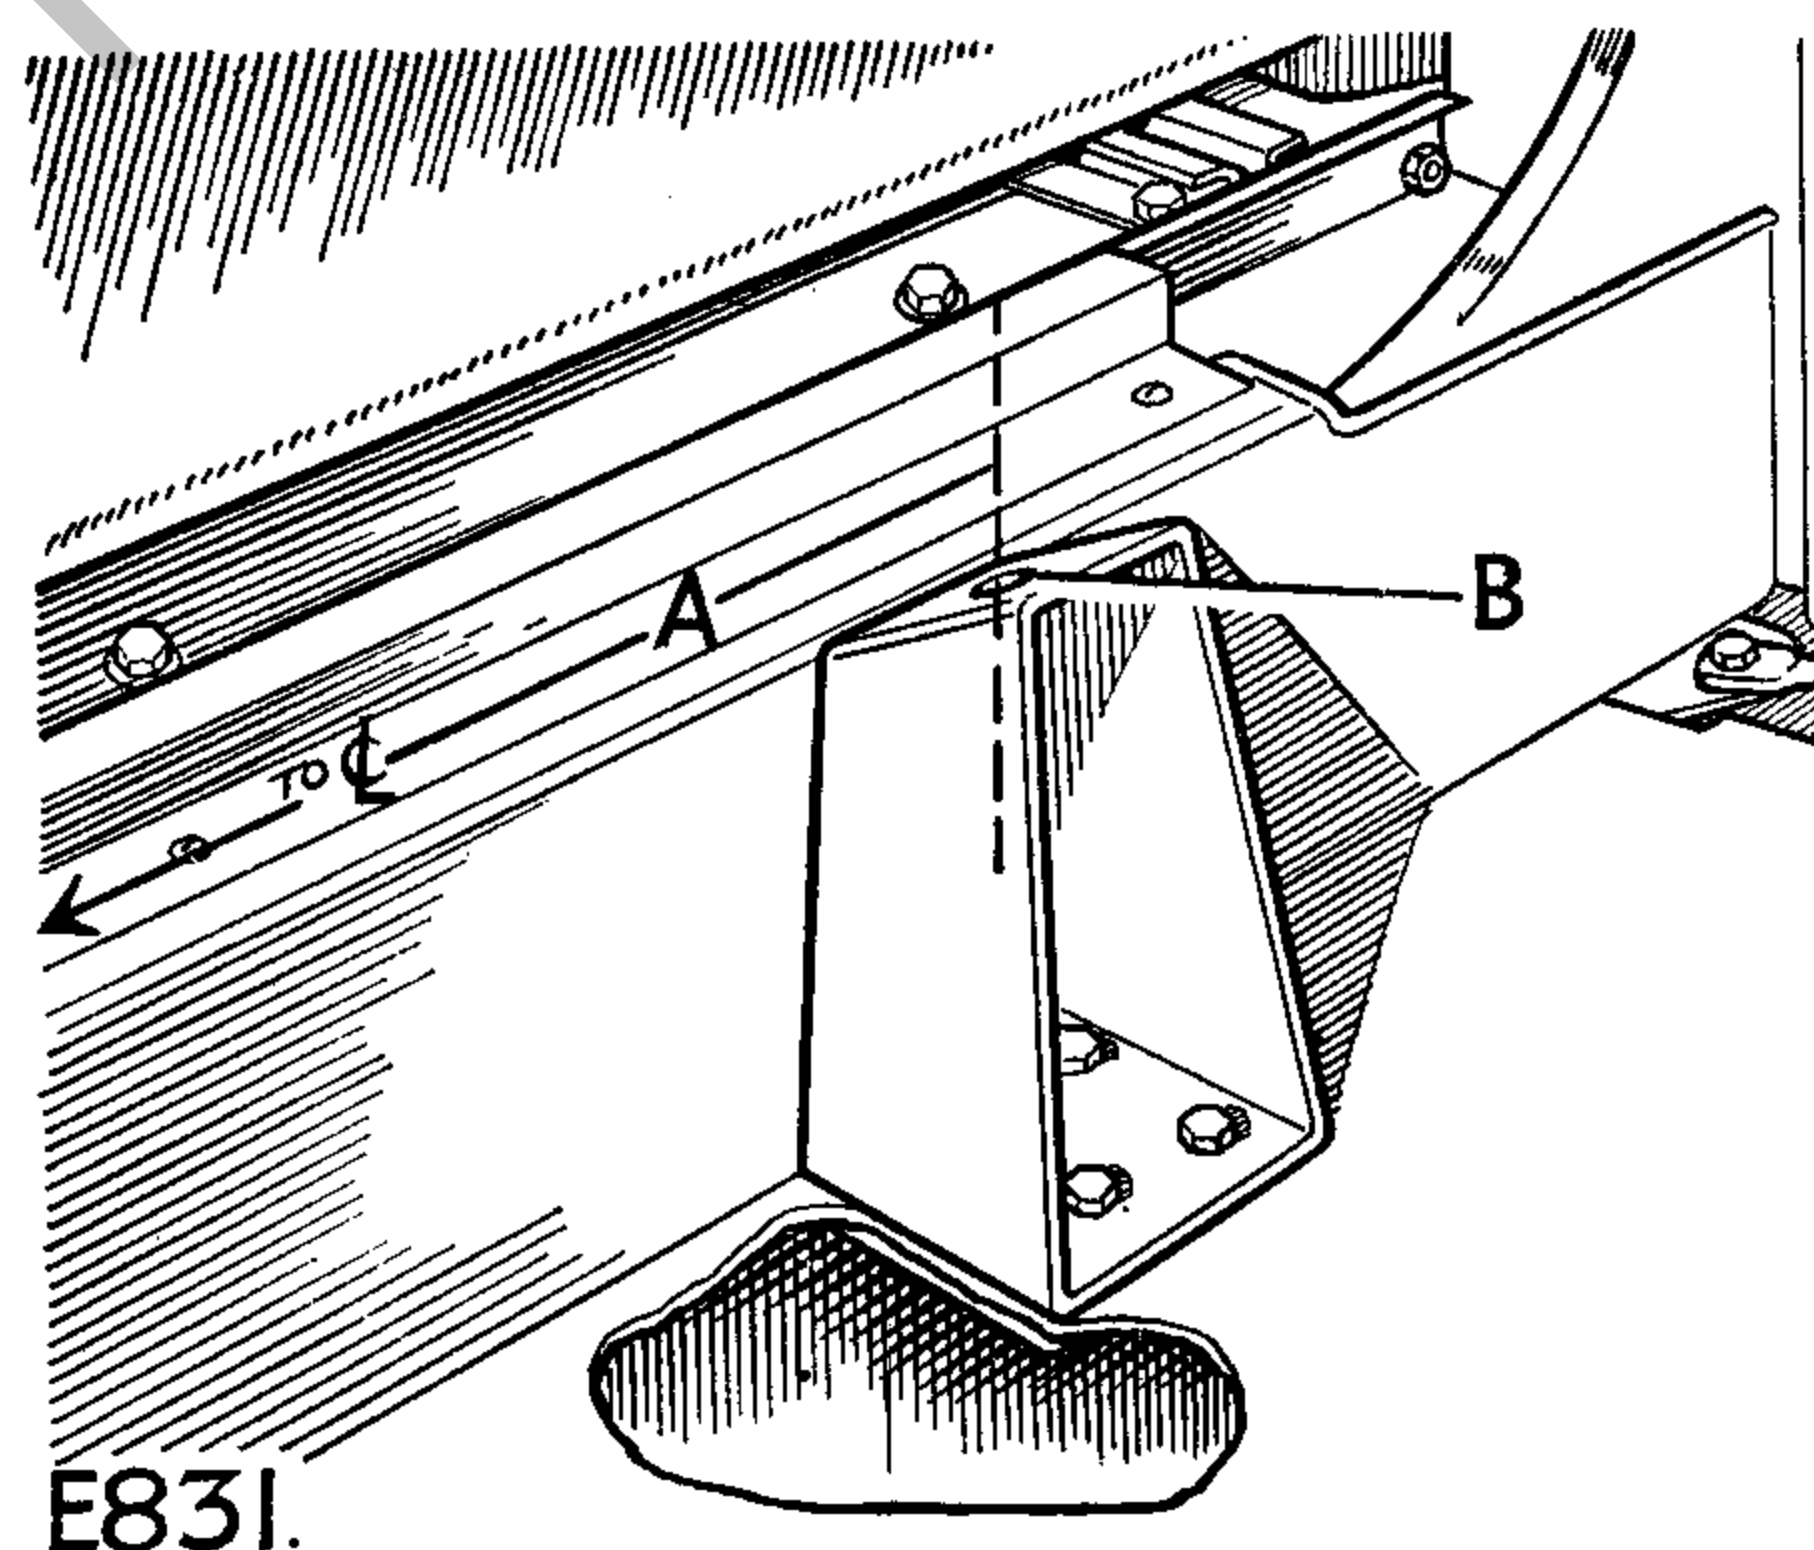

Fig. 14.
5. Mark off a centre line of vehicle on body floor adjacent to seat bulkhead—then mark off a position $9\frac{7}{8}$ in. (251 mm) from the centre line toward body side, as shown in Fig. 14.